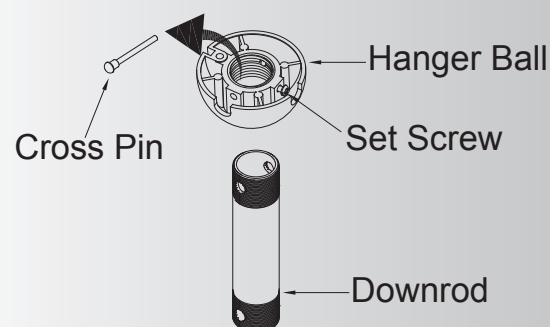

Fig. 6
Step 2. Remove the hanger ball from downrod assembly by loosening set screws, removing the cross pin, and twisting ball out of the rod. (Fig. 6)